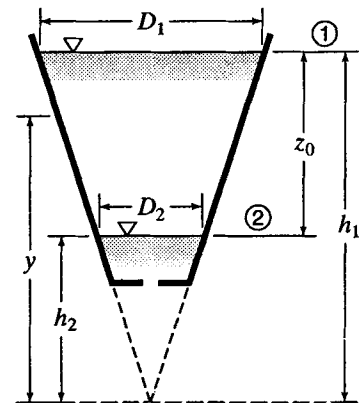

Figure X12.2.3
12.2.3 The tank in Fig. X12.2.3 has the shape of the frustrum of a cone with a 2-ft² orifice ($C_d = 0.62$) in the bottom. Given $D_1 = 44 \text{ ft}$, $D_2 = 20 \text{ ft}$, $z_0 = 36 \text{ ft}$, and that the water level outside the tank is constant at section 2, how long will it take the water level in the tank to drop from section 1 to section 2? (Note: The tank diameter = ky , and $y = z + h_2$, where z is the variable distance between surface levels.)